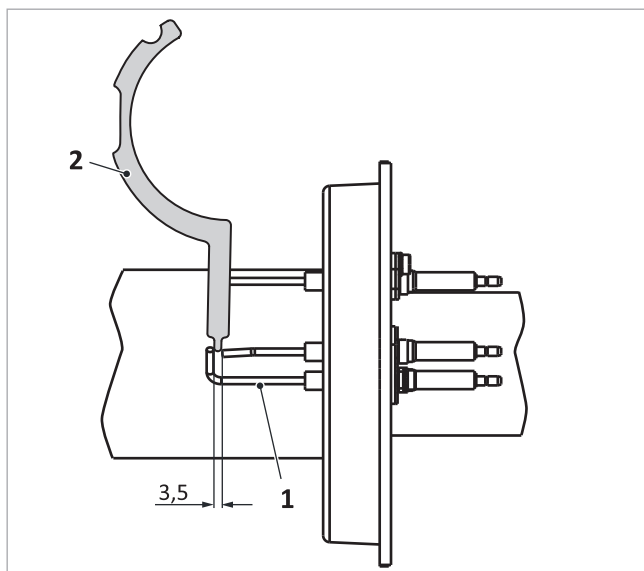

Fig. 40: Clearance from electrode to gauges on the ignition electrode
2. Check the spacing of the ionisation electrodes with the aid of an electrode gauge → Fig. 40 (2) (correct them, if necessary, by carefully bending them).
- Between the electrodes → Fig. 40 (1): 3.5 mm